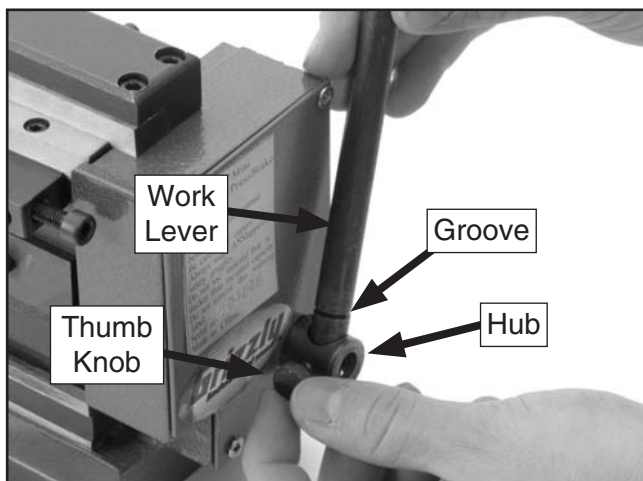

Figure 7. Work lever installation.
1. Insert the work lever into the hub, so the tip of the thumb knob fits in the groove in the lever (**Figure 7**), and secure it in place with the thumb knob.